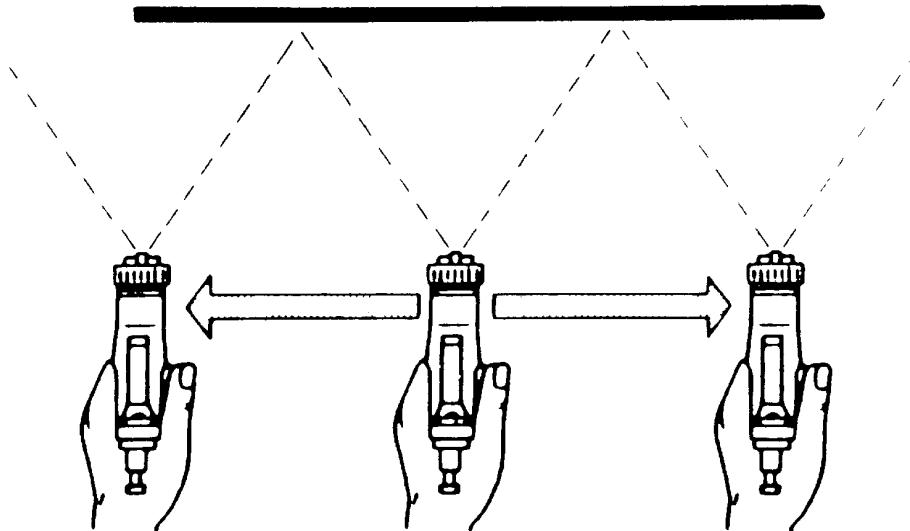

Figure 2: Guiding of the METACAP Spray Gun D/A
- 5. Now move the spray gun to and fro in front of the work piece and ensure a vertical spray beam, if possible (see figure 2).